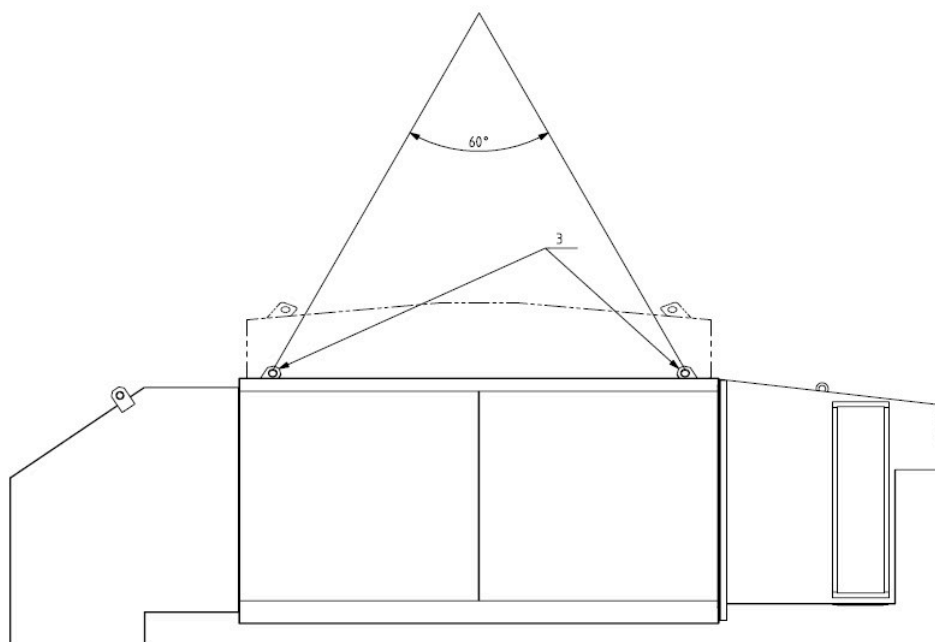

Figure 13 Lifting Air-to-air cooler
- Use lifting eyes marked with **3** on Figure 13 Lifting Air-to-air cooler for lifting the actual cooler. Lifting eyes are located under the top roof.